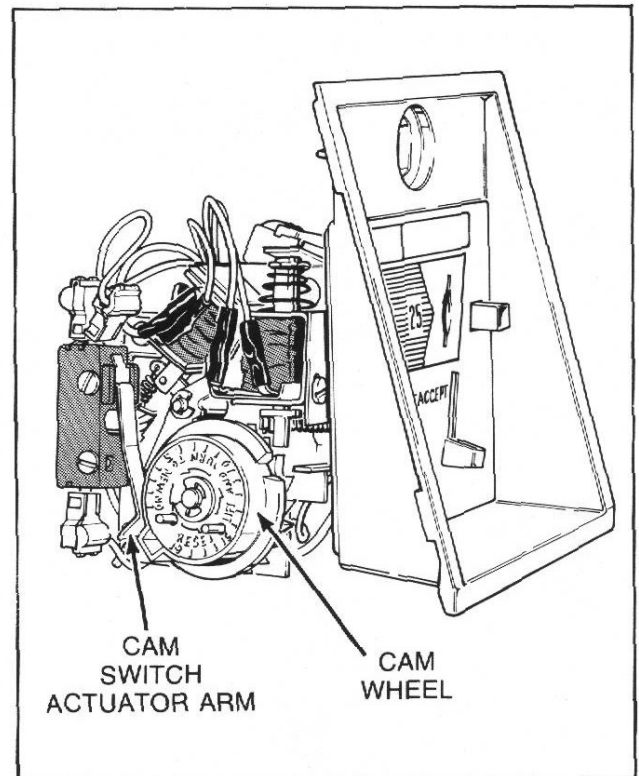

Figure 46
**41. ACCUMULATOR COIN DROP** (Refer to Figure 46)